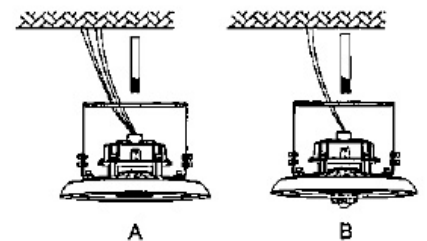

Figure 9
2. Insert 1/2" NPT stem into the bracket hole. (figure 9)